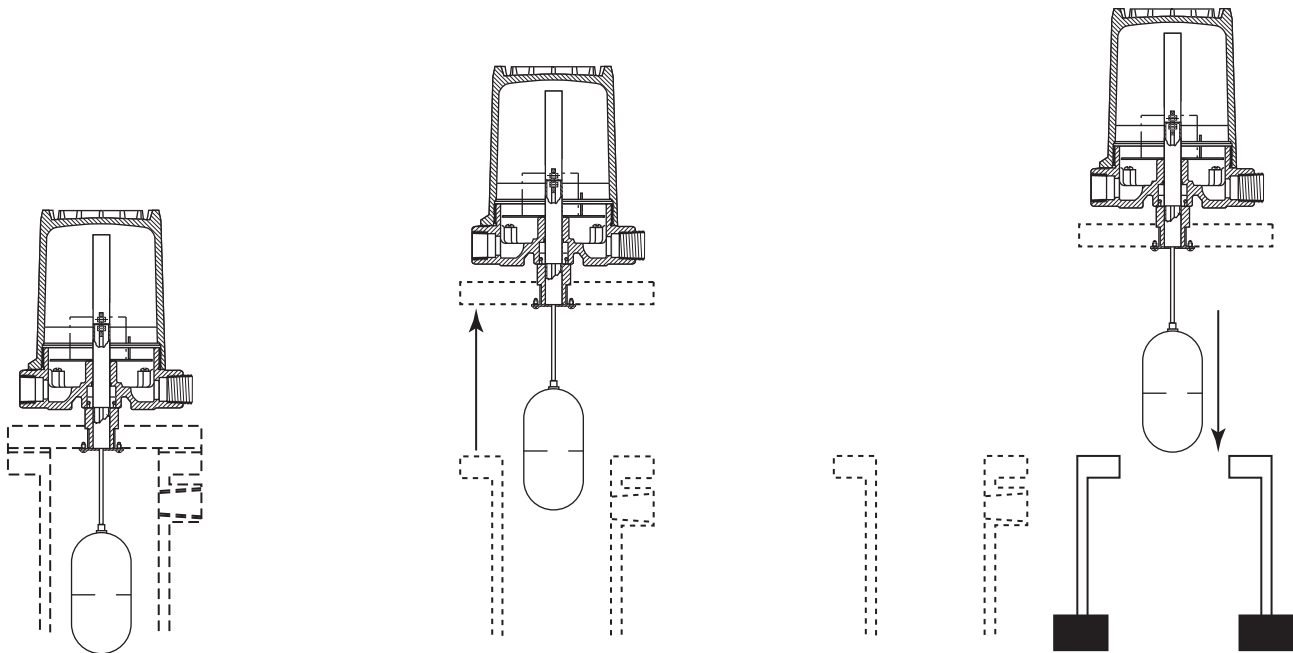

Figure 24
5. Prepare an area where the head assembly can be placed such that it rests on the flange in its normal orientation (two 2×4 boards placed across an open drum work well). Refer to Figure 24.
10. Replace the assembly keeping it as vertical as possible. Carefully lower the assembly into the chamber making sure that the stem does not become bent during installation. Refer to Figure 24.